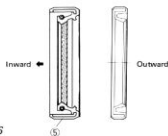

Fig. 13-36
The oil seal (5) used in this case is of helix type as shown in Fig. 13-36. When installing this seal, be sure to position it so that its helical part comes on the inner side.